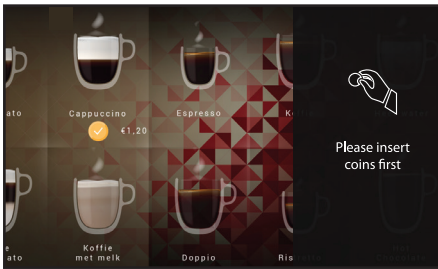

Fig. 4.11- Drink delivery with payment system
1. Insert a sufficient amount of cash or e-cash into the payment system, please see fig. 4.11.